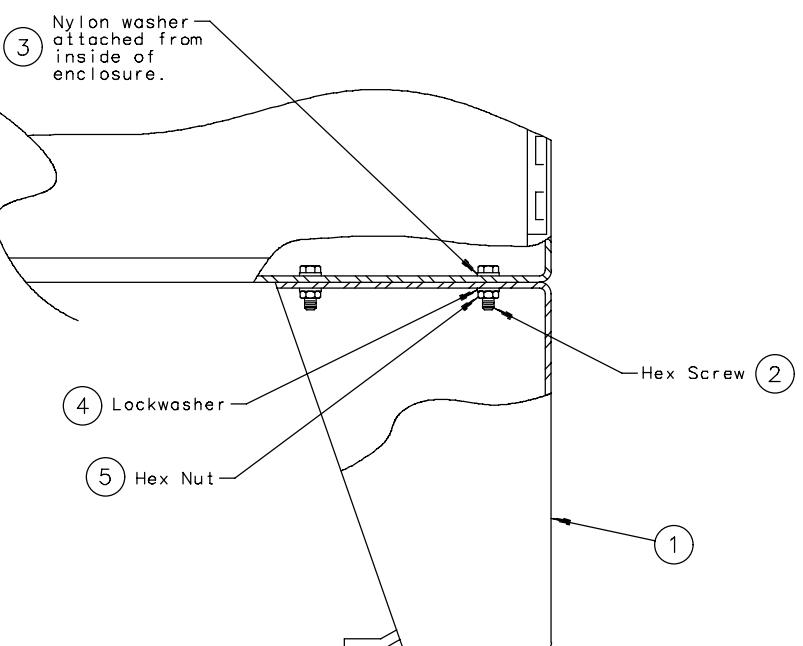

Figure 3
4. Bolt the floor stand to the enclosure as shown in figure 3 using the 3/8-16x.75 hex head screws, washers, and nuts provided. Firmly tighten all fasteners.